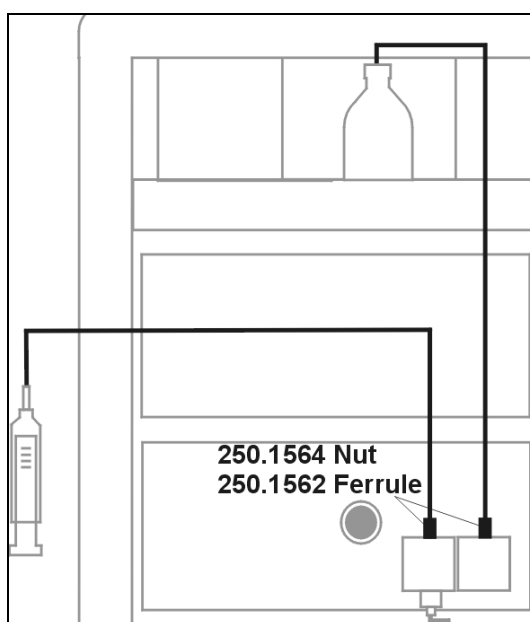

Figure 7. Assembly C: Connection of piston wash of LC 100 pump.
Place one tubing end in the bottle with wash solvent as depicted in figure 7. Connect the syringe (p/n 182.0408) supplied in the LC 100 ship kit to the other tubing. Install the interconnection tubing (L) and fill the piston wash with wash solvent by withdrawal of the syringe.